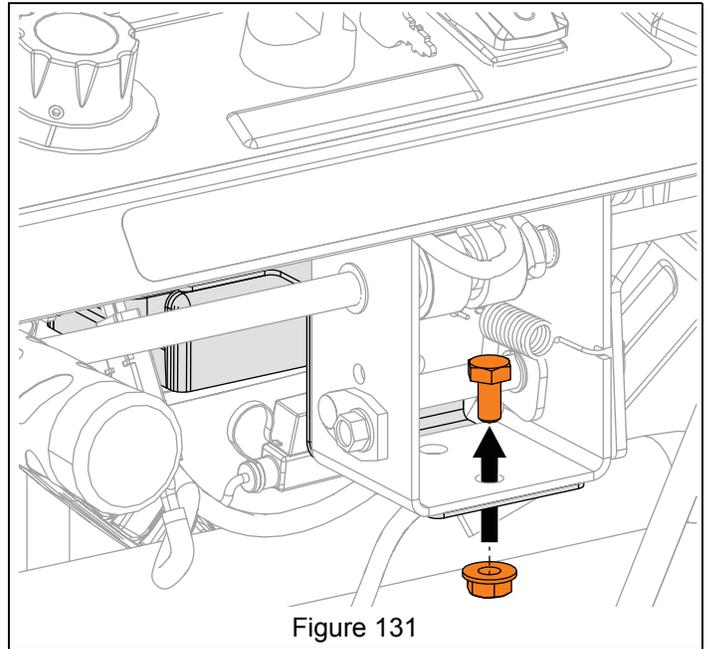

Figure 131
- Remove hardware retaining ECU bracket and remove bracket. See Figure 131.